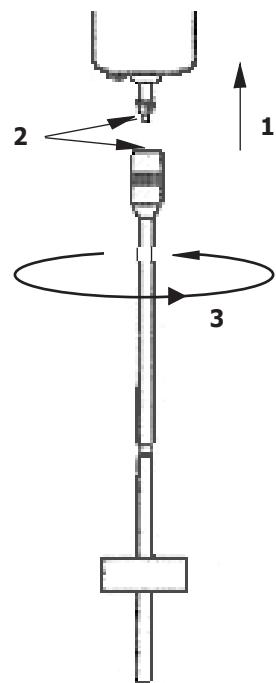

Fig 6.3.2.
(See fig 6.3.2)
- By keeping the shaft upwards, fit the spindle and then turn counter-clockwise. (See fig 6.3.2)